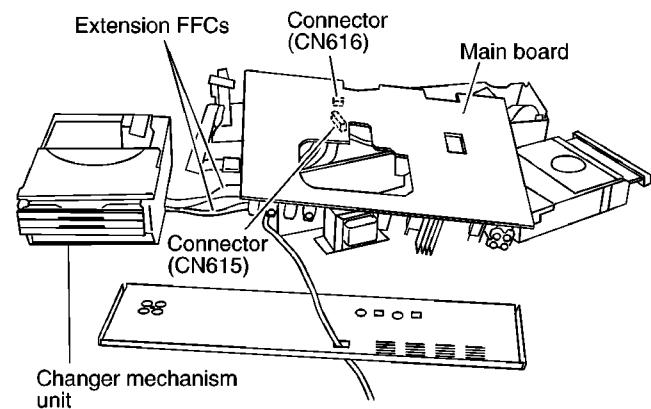

Fig.5
4. Connect the extension 2 FFCs to the connector. (Shown in Fig.5.)
5. Check the main board as shown Fig.5.